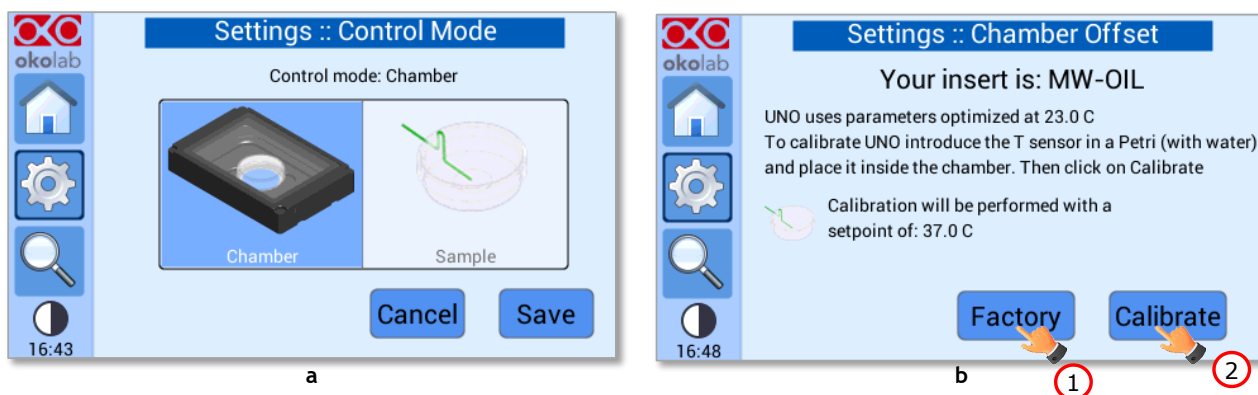

Figure 34. Settings – Control Mode – Chamber Control mode – Offset (a – b).
After selecting Chamber Control mode, the screen in Figure 34 b will appear:
1. By pressing *Factory* button (see pointer 1 in Figure 34 b) UNO-CONTROLLER will recover and use the factory calibration parameters.
- By pressing *Calibrate* (see pointer 2 in in Figure 34 b) UNO-CONTROLLER will start a routine to calibrate its parameters using the T Sensor (see paragraph 8.2.5.1).